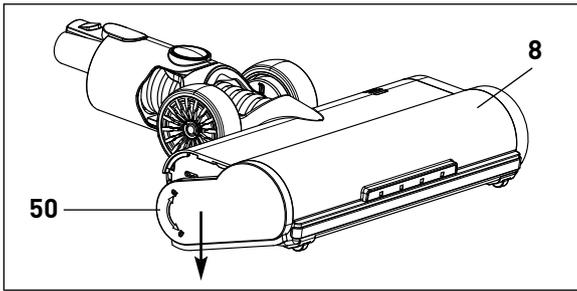
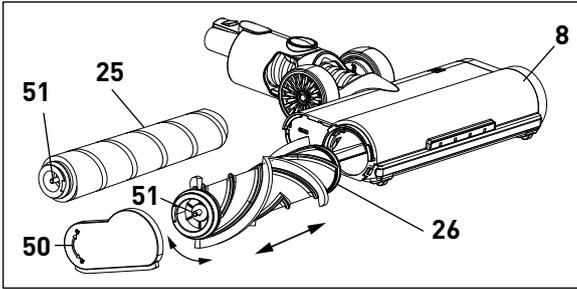

Figure 21
Figure 22
-Turn the end cover (50) on the right-hand side of the Power Brush (8) downward (counterclockwise) to unlock and then remove the end cover (figure 21). Pull the brush out (figure 22) and remove any hair or string.